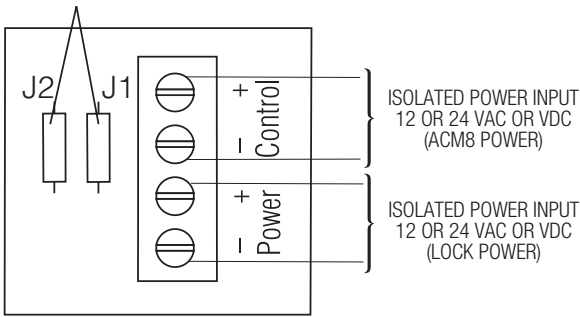

Fig. 3 Polarity reversal input from FACP signaling circuit output (polarity is referenced in alarm condition):
5. **Fire Alarm Interface options** (Figs. 3 through 7, pg. 6-7):
FACP INTERFACE T, + INPUT –	Fire Alarm Interface trigger input from FACP. Trigger inputs can be normally open, normally closed from an FACP output circuit (Fig. 3 through 7, pgs. 6-7).